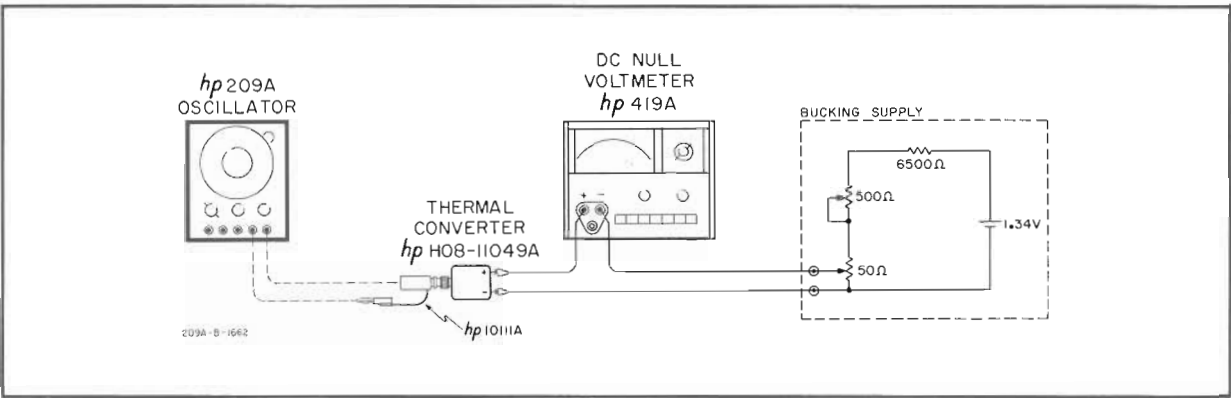

Figure 5-2. Flatness Check
- Connect the equipment as shown in Figure 5-2.